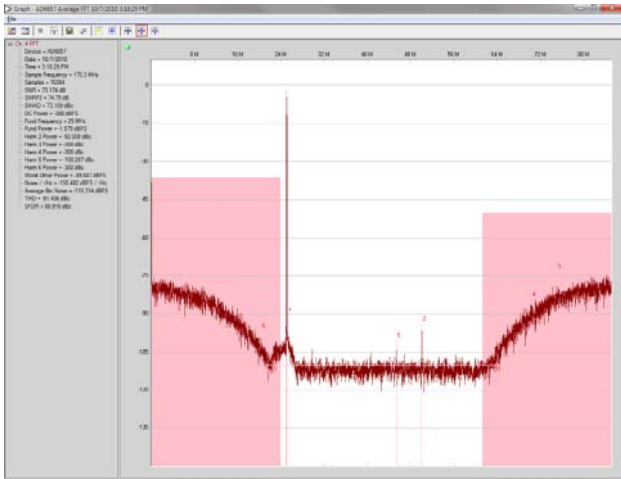

Figure 18. Graph – AD6657 Average FFT Window of VisualAnalog, NSR Enabled
- The result should show an FFT plot that looks similar to Figure 18.